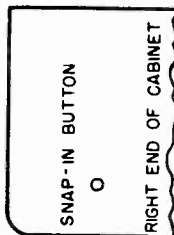

FIG. 1
2. Remove the four screws that hold the plate through which the push buttons protrude, and remove the plate. (This plate is called the "escutcheon".) If your radio is a table model (not a console), remove the snap-in button at the right side of the cabinet. See Fig. 1 of the dial. If your radio is a table model, a key, illustrated in Fig. 3, will be found in the instruction leaflet envelope. Insert this key in the hole in the side of the cabinet from which the snap-in button was removed and engage the key with the slot at the end of the push button locking mechanism. Unscrew (turn counter-clockwise) the key a few turns, unlocking the mechanism. (A screw driver can be used for unlocking the mechanism instead of the key supplied.)